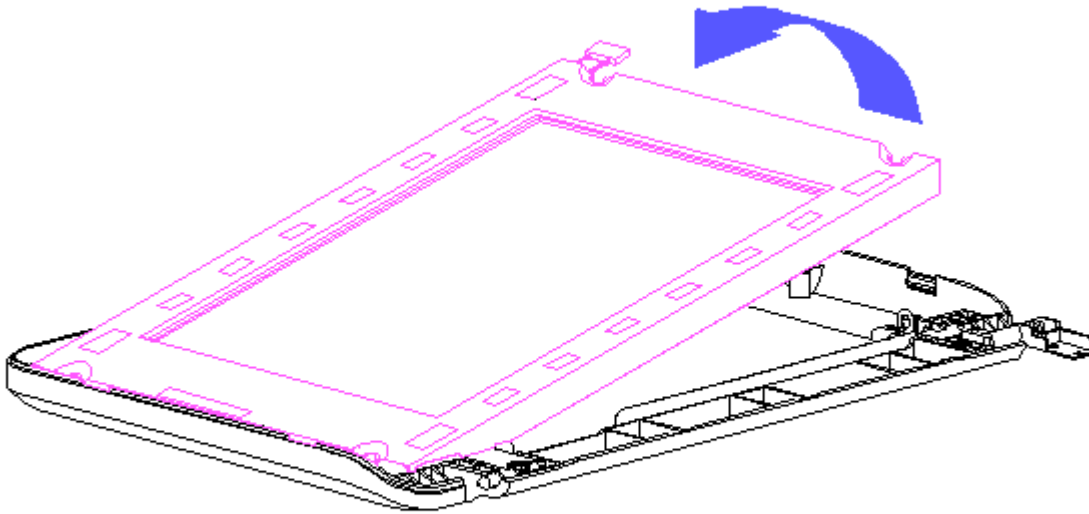

Figure 3-31. Lifting the LCD Panel out of the Display Enclosure
3. Carefully rotate the LCD panel to the left and out of the display enclosure (Figure 3-31).